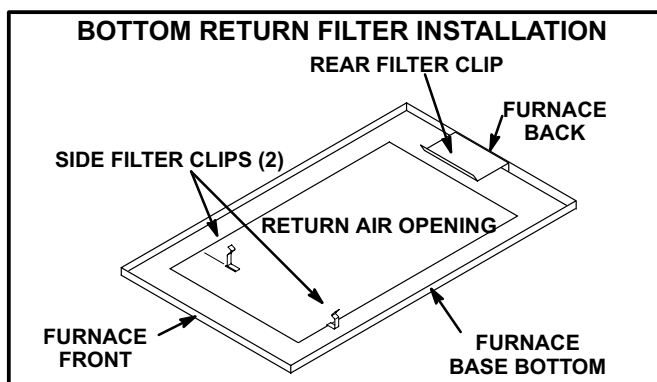

FIGURE 4
- 3 - Remove filter by pressing side filter clips and pulling filter up and out. See figure 4.